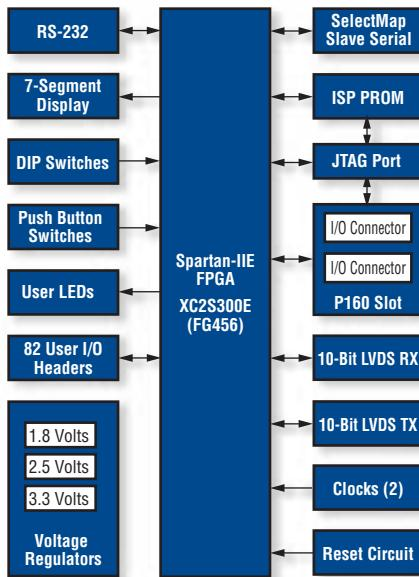

Figure 2 - Spartan-IIIE system board block diagram
- The Spartan-IIIE system board is based on the 300K-gate XC2S300E device (Figure 2). This board offers a 10-bit LVDS Tx/Rx port and 82 general purpose I/Os.